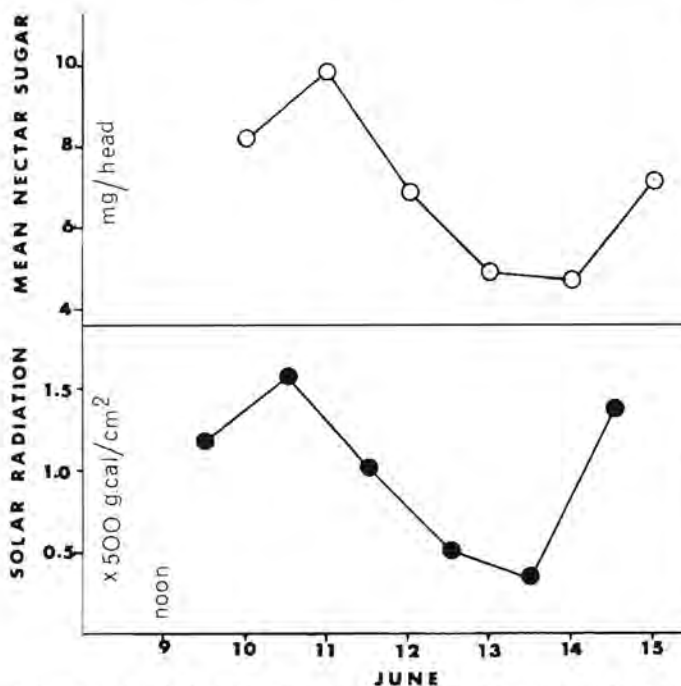

FIGURE 1. THE CLOSE RELATIONSHIP BETWEEN SOLAR ENERGY AND NECTAR YIELD in alsike, a major honey plant in many parts of Canada.
Nectar is secreted from tiny glands called "nectaries", which are usually located on the flower, though in some plants they also occur outside the flower. Weather factors may affect secretion directly by acting on processes in the flower or indirectly through processes occurring elsewhere in the plant. Daily nectar yields can differ by as much as 400 or 500% in the course of a few days. Under natural conditions it is sometimes difficult to assess the relative importance of different factors in the weather complex. Sunlight, however, may be considered the most basic because it provides the energy for the photosynthesis of nectar sugar. Figure 1 illustrates the close relationship found between daily
A. From 1939 to 1960 there were 344 fatalities, and from 1969 to 1976 there were 78⁵. Only the Yukon and the Northwest Territories have a fatality-free record. Figure 1 (p. 39) compares the average number of lightning caused deaths per year to the average number of thunderstorm days (a day on which thunder is reported) per year. Both increasing latitude and proximity to ocean areas control the amount of thunderstorms, and the maritime areas of the east and west coasts as well as the northern territories have fewer thunderstorm days, and therefore fewer lightning deaths, than the interior of Canada. To some extent, Fig. 1 is misleading because it does not take population into account. It indicates that Ontario and Quebec have the greatest number of fatalities which is due no doubt to their large population. On a per capita basis, the death rate is actually greatest in Saskatchewan with 2.8 deaths per year per million of population. Alberta is second with 2.0, followed by Manitoba 1.8; New Brunswick 1.4; Ontario and P.E.I. 1.0; Quebec 0.9; Nova Scotia 0.6; and Newfoundland and British Columbia last with 0.2.